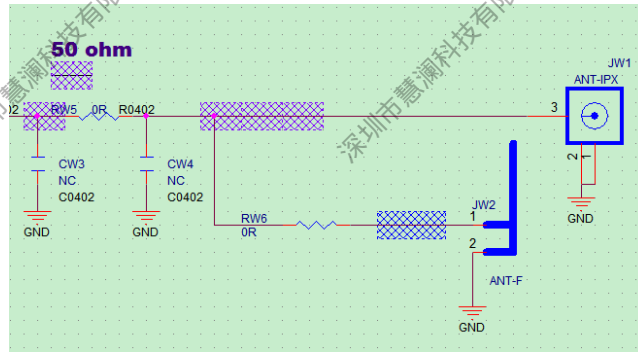

Figure 2-35 WiFi Antenna Matching Circuit
- The antenna of WiFi needs to reserve π -type circuit for antenna debugging. As shown in Figure 2-35.